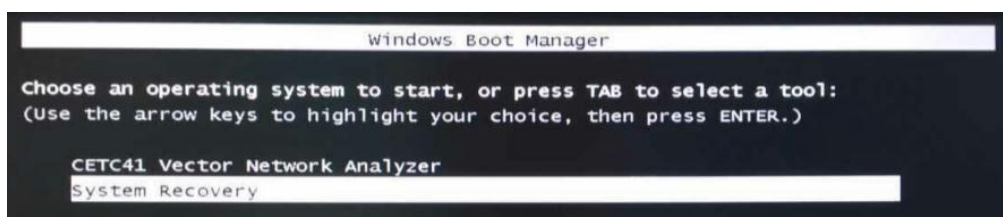

Figure 3.9: Power-on Page Display
- 2) Press the [Power/Standby] button on the lower left corner of the front panel. When the indicator light on the connected keyboard is on, and the page shown in Figure 3.9 appears, press the [↑]/[↓] key on the keyboard to select System Recovery, and then press the [Enter] key on the keyboard for automatic system recovery;